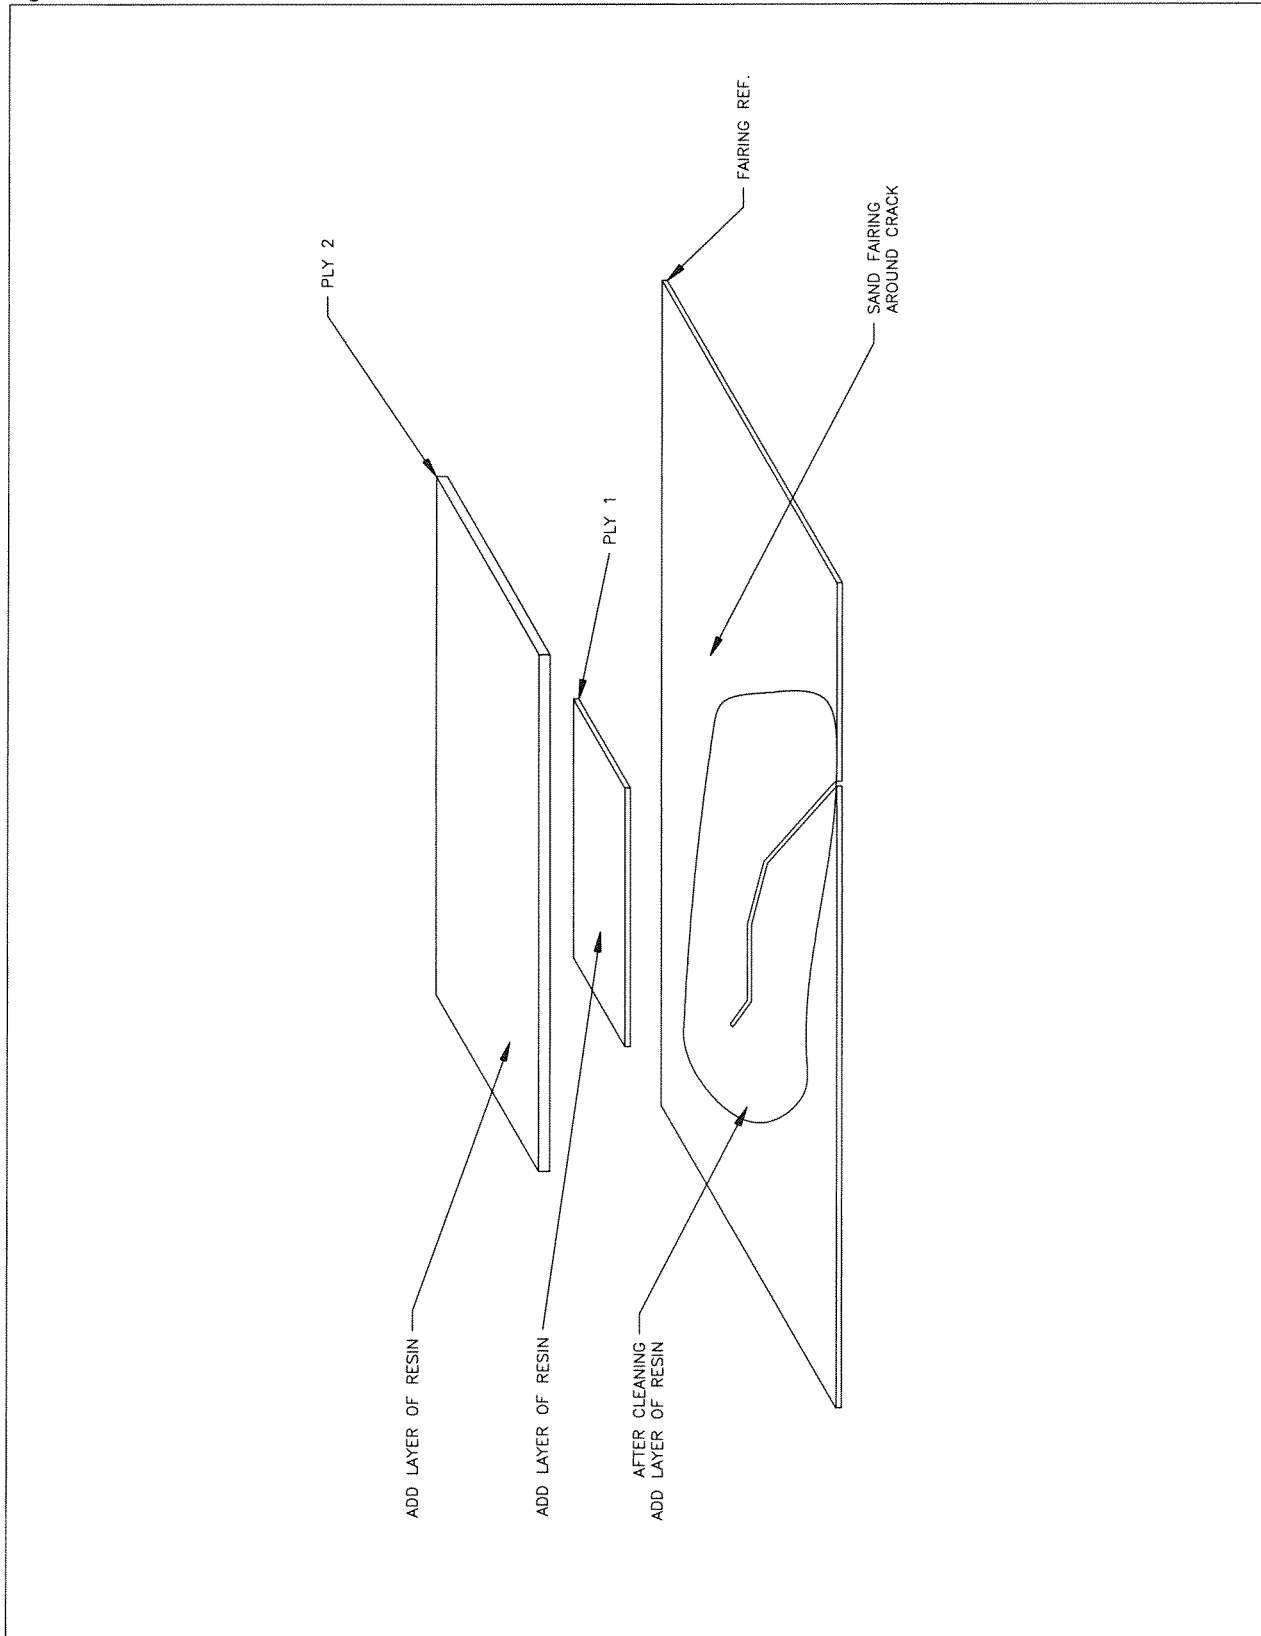

Figure 1
12. Dab a thin layer of resin (recommended with an acid brush) on the outside surface of the fairing over the affected area. (Ref. Figure 1)
13. Place one of the smaller pieces of fiberglass cloth on the layer of resin. (Ref. Figure 1)
14. Dab the layer of fiberglass cloth with a layer of resin until it has been thoroughly saturated. Work air bubbles from the center out (recommended with a squeegee or roller) to ensure an adequate bond. (Ref. Figure 1)
15. Place one of the larger pieces of fiberglass cloth on the layer of resin. (Ref. Figure 1)
16. Dab this layer of fiberglass cloth with a layer of resin until it has been thoroughly saturated. Work air bubbles from the center out to ensure an adequate bond. (Ref. Figure 1)